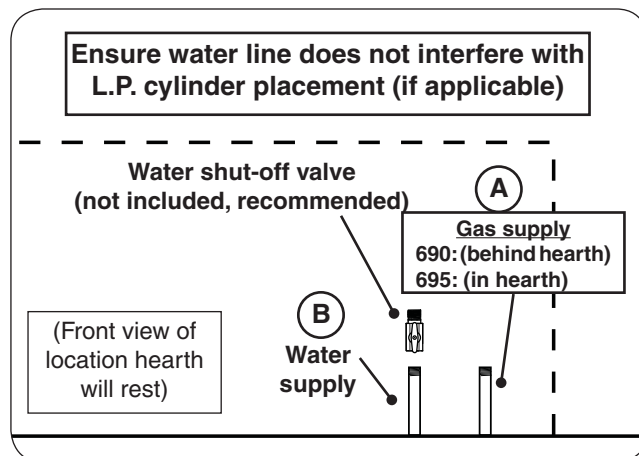

Fig. 18-1 Route gas and water supply
1. Route the gas supply to the area that the hearth will rest (see Fig. 18-1, A).
1. Plumb the water supply into the area that the hearth will rest over (see Fig. 18-1, B).
**Note:** It is recommended that a water shut-off valve (not included) be attached to the water supply line. It can be installed remotely or at the end of the water supply line. See Fig. 18-1, B for an example.